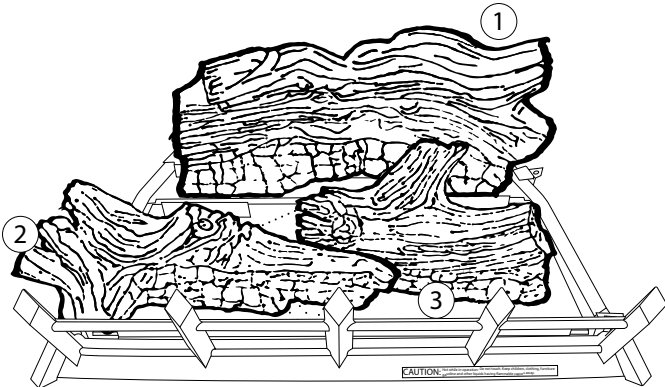

Figure 51.
3. Place the front center log (#3) on the pin located on the right side of the burner. (See Figure 51.)